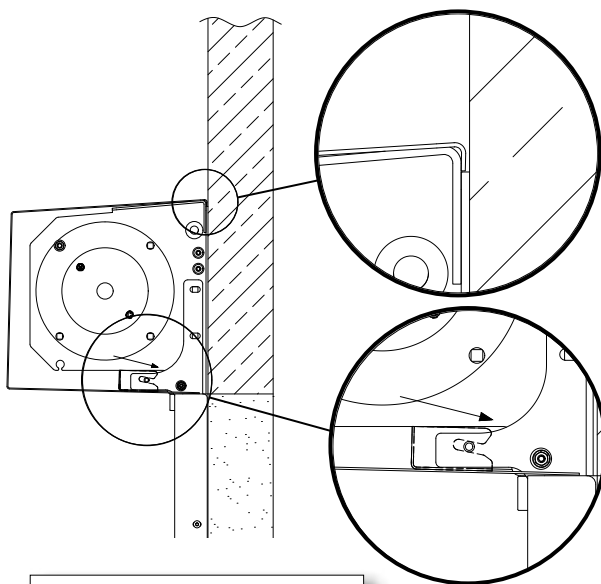

Figure 37: Fully seat Shroud onto Shroud Mount Screws.
8. Push the Shroud towards the wall until the top rear flange of the shroud hooks behind the rear top flanges of the Flag Plates and guide the slots of the Shroud Mount brackets towards the Shroud Mounting Screws in the Header Flag Plates. (Figure 37).